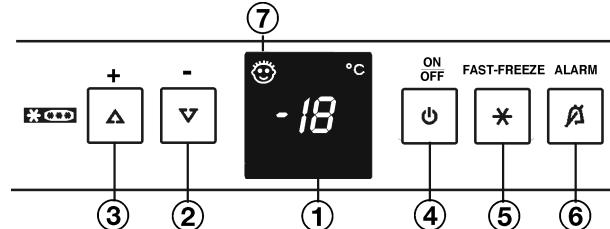

Fig. 2
- Press On/Off button Fig. 2 (4).
- To activate the setting mode: Press the Fast Freeze button *Fig. 2 (5)* for about 5 seconds.
- Using the "+" setting button *Fig. 2 (3)* and "-" setting button *Fig. 2 (2)*, select h
- To confirm: Briefly press the Fast Freeze button *Fig. 2 (5)*.
- To make the display brighter: Press the "+" setting button *Fig. 2 (3)*.
- To make the display darker: Press the "-" setting button *Fig. 2 (2)*.
- To confirm: Press the Fast Freeze button *Fig. 2 (5)*.